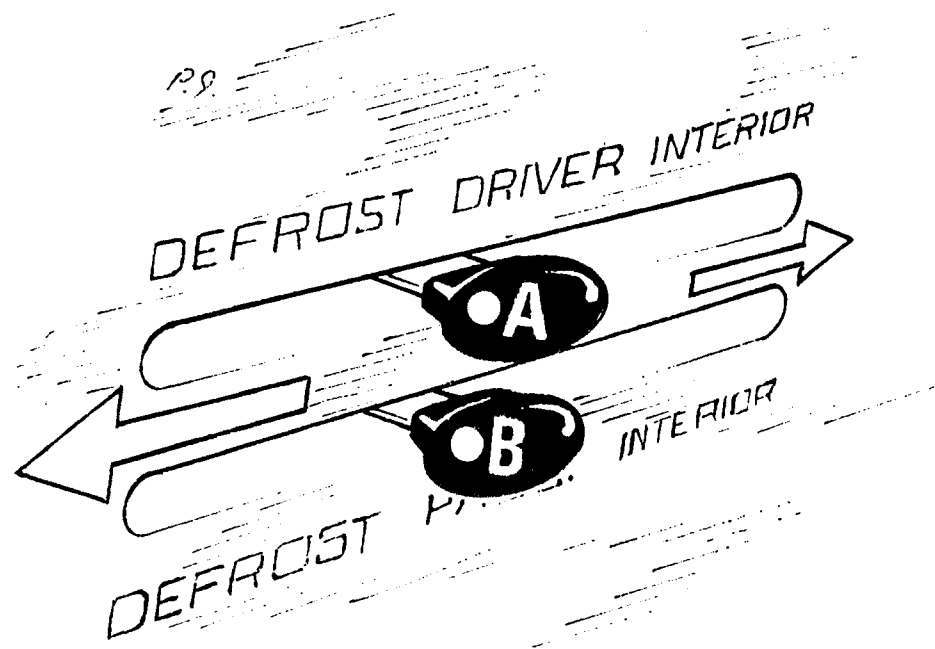

Fig. 7—Heater controls.
Interior heating and ventilating can be controlled individually by both driver (A) and passenger (B) alike, using the control levers as shown (see Fig. 7).